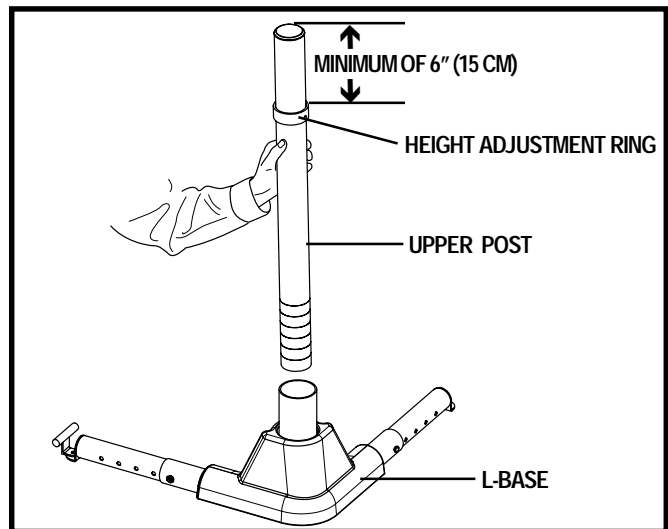

Figure 5. Upper Post Installation
1. Insert the upper post into the L-base. See **figure 5**.